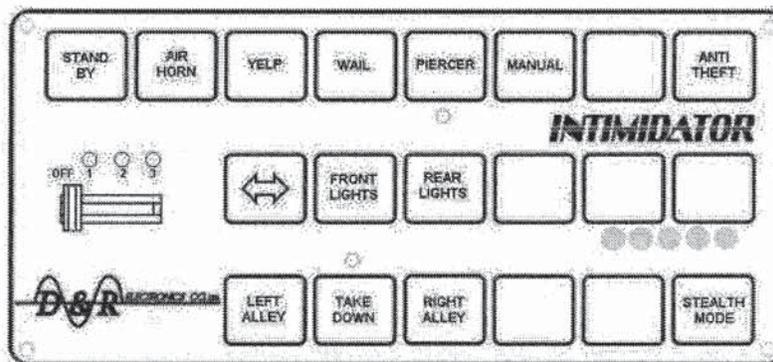

Figure 13 – D&R Electronics – Intimidator Controller
- a. Siren buttons: “manual”, “stand-by”, “air horn”, “piercer”, “wail”, “yelp”, and “hi-lo” (if this siren tone is available). Function assignment for buttons **shall** follow the layout examples in Figures 13 to 14 as close as possible;
- (1). **Position 1:** All rear-mounted police lights activated (hide-away, rear tail lights flasher, rear visor / traffic director on warning mode, deck lights) and all intersection lights activated;
- (2). **Position 2:** All front-mounted police lights activated (hide-away, wig-wag, grille lights and front visor) and all intersection lights activated; and
- (3). **Position 3:** All police lights activated (including roof light bar, front visor, and rear visor / traffic director on warning mode).
- (1). Press one time: Move traffic to the left;
- (2). Press a second time: Move traffic to the right; and
- (3). Press a third time: "Warning" mode;
20. Function assignment for all buttons and switches on the emergency equipment controllers **shall** follow the layout examples in *Figures 13 to 14*.
- a. *D&R Electronics* – Intimidator, model F3.3150S (see *Figure 13* for configuration);